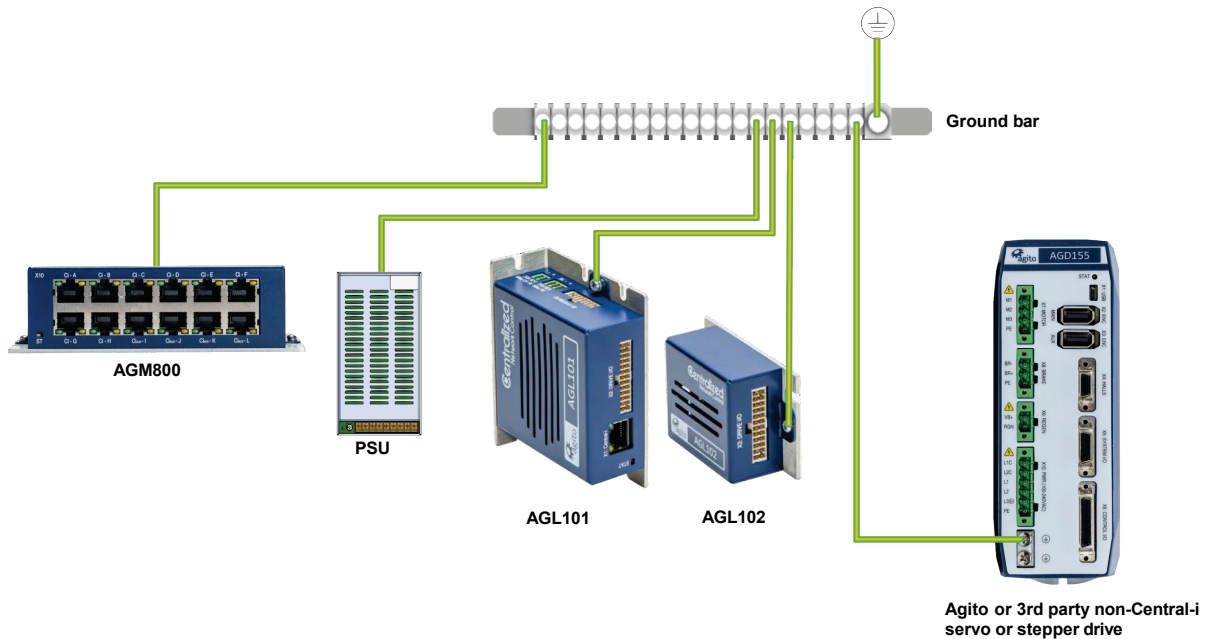

Figure 7. System grounding
- The AGL10x must be connected to protective earth (PE) and connected to the building’s ground. PE is protected with an earth-leakage circuit breaker (ELCB); hence it is safe to touch. Refer to Figure 7.